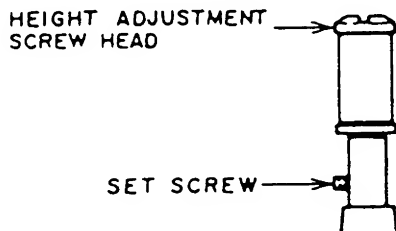

Fig. 4-11
- 1) Slightly loosen the set screw at the lower part of the LOADING LEADERS (L), (R) so that the LOADING LEADER can be adjusted with reasonable tightness. (Refer Fig.4-11.)